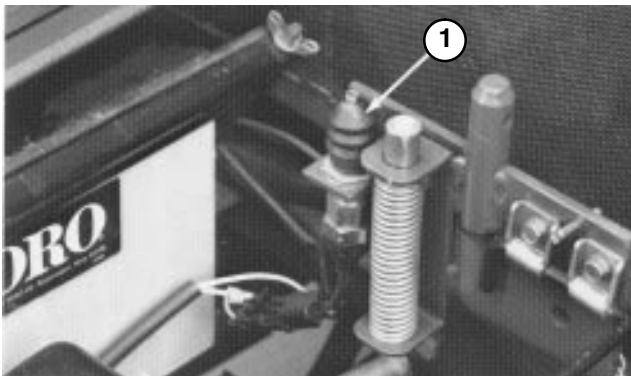

Figure 43
3. Remove boot from button end of seat switch (Fig. 43). Retain boot for reinstallation. Separate switch wire connectors.